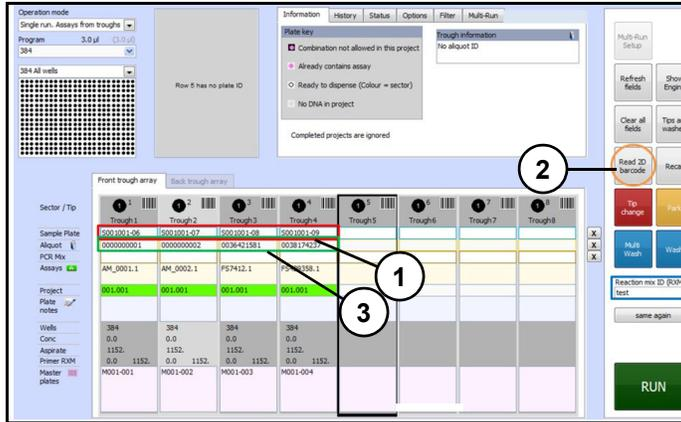

Figure 23
7. Using a handheld 1D barcode scanner (connected to instrument PC), scan barcodes of plates to be dispensed, into sample plate field (1) (Figure 23).
9. Click "Read 2D barcode" (2). 2D barcode reader will scan tubes and corresponding barcodes will be automatically displayed in "Aliquot" (3). (Figure 23)